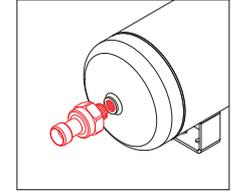

Abb. 17: Air tank
2. Mounting directly to the air tank (Fig. 17))